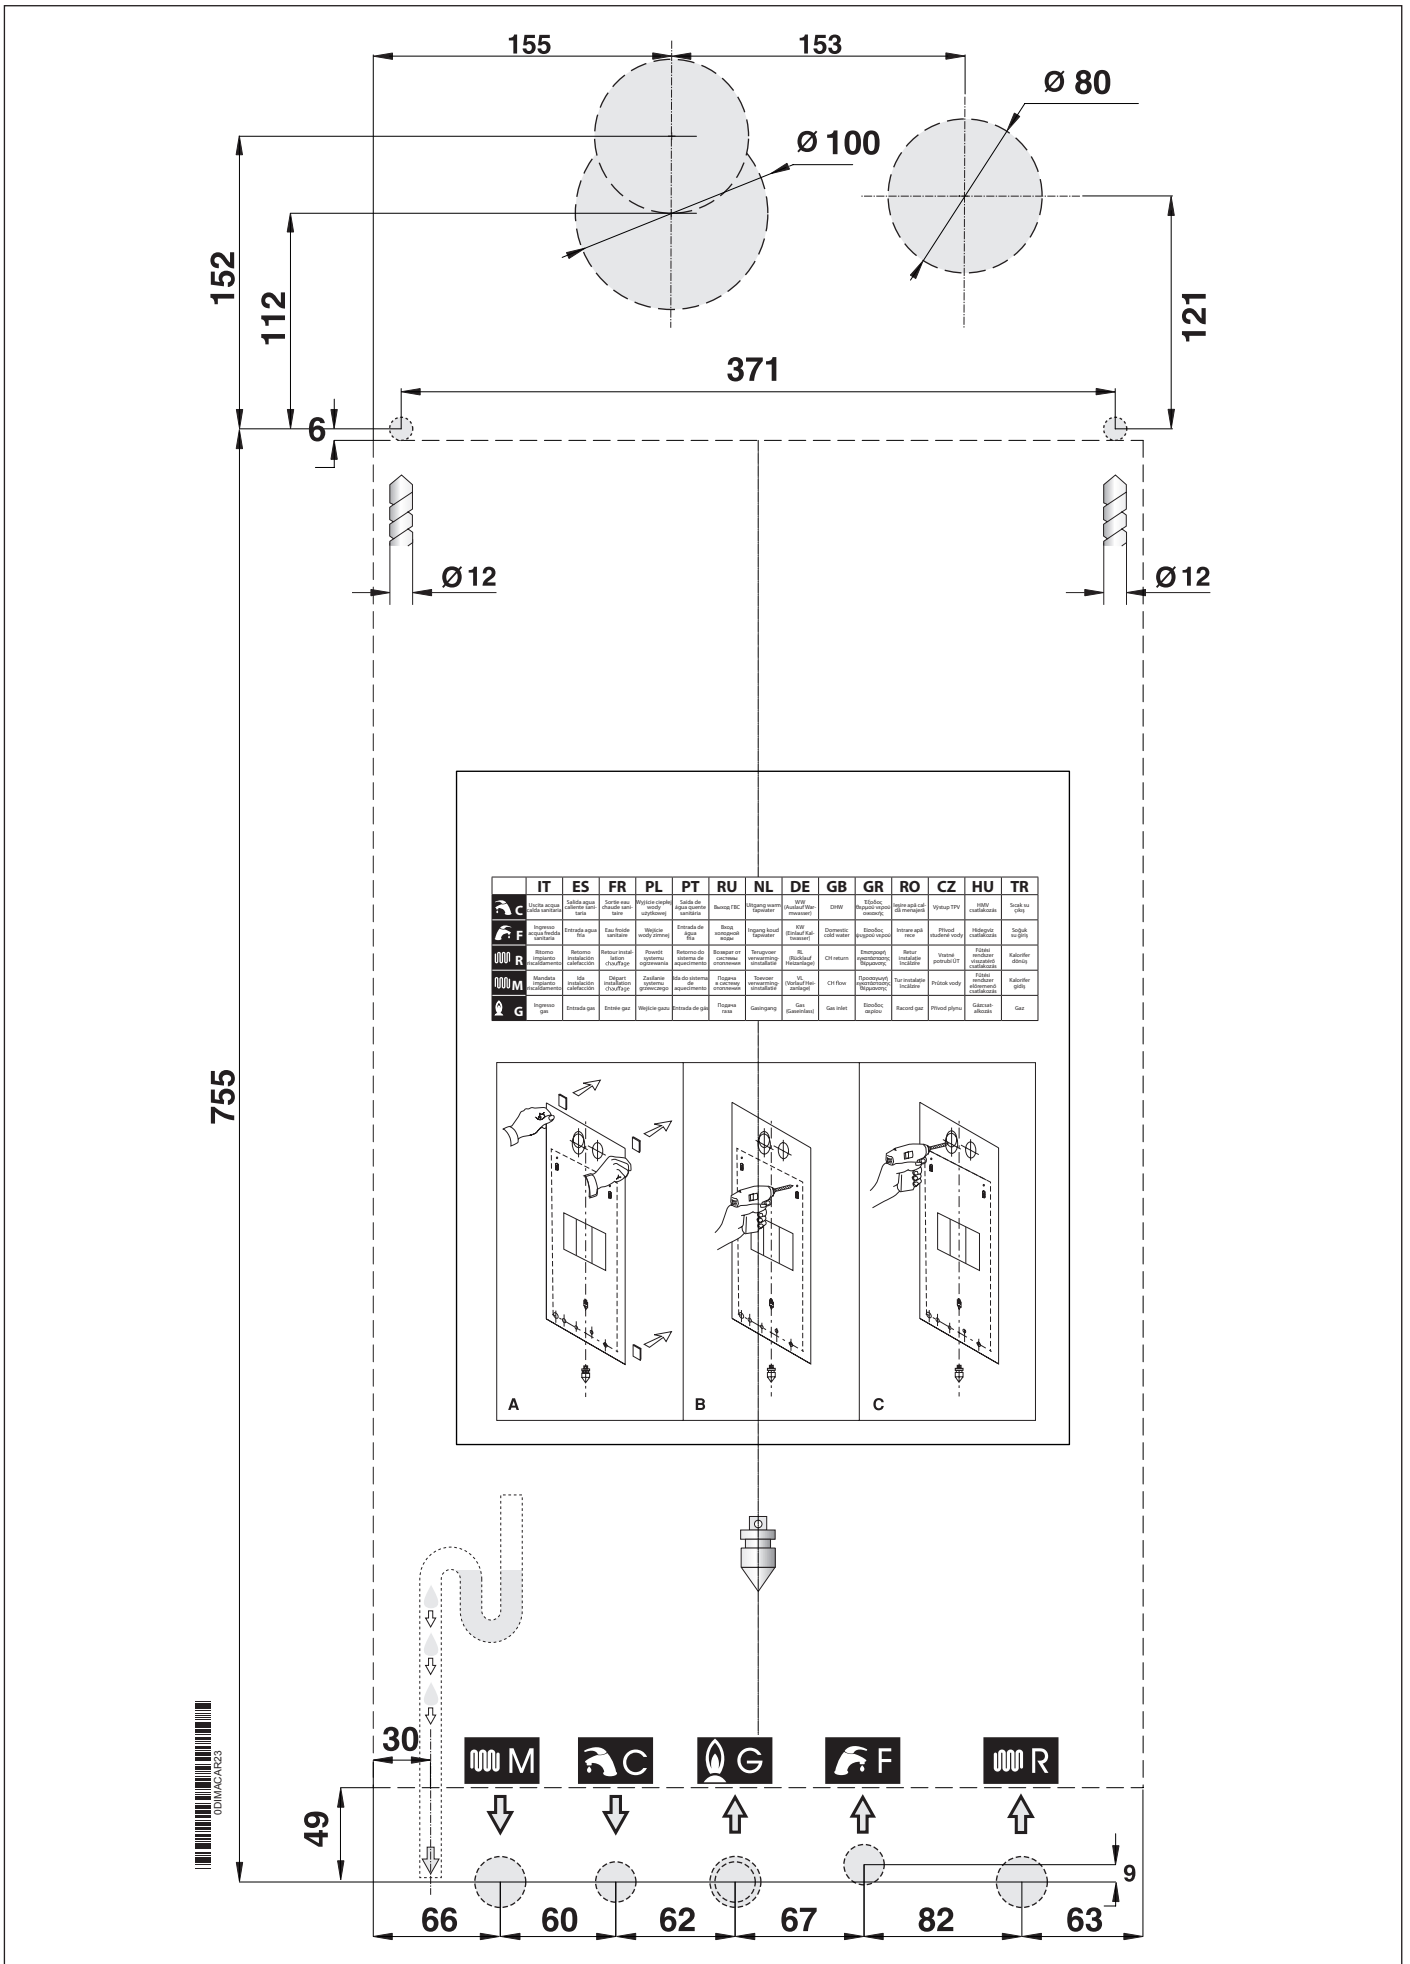

Fig. 8 Paper template
- the template for mounting the boiler on a wall (see Fig. 8 Paper template).
Each boiler is supplied with a paper template, found inside the packaging (see Fig. 8 Paper template).